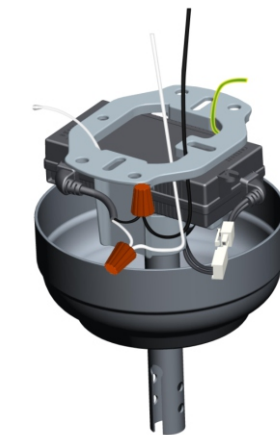

Fig 8.2
Connect the wire of the power adapter through the bracket as below Fig 8.2: The wires will need to be bound together with electrical tape for added stability. Put the AC Adapter inside the bracket and connect the DC output wire with the wire from motor through the downrod.
**Warning:** Put AC adapter into the flat side of bracket and push it through to the other side which the ceiling fan hangs from. Please see the arrow direction showed in Fig 8.2, otherwise the wires will be too short to be connected.
The White wire from AC Adapter connects with the Neutral wire from supply power, the Black wire from AC Adapter connects with the Live wire from supply power, using the wiring cap to tuck the wires together. (Make sure all the wires are connected to the correct colors as shown below **Fig 8.2**)